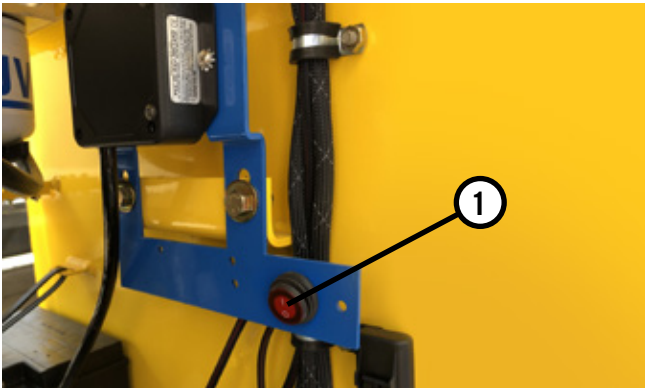

Fig. 1-7
- To turn off the wireless remote receiver, flip down the red circle switch located to the right, inside the machine. A red light on the switch will go out (Fig. 1-7, 1) indicating that the receiver is off.